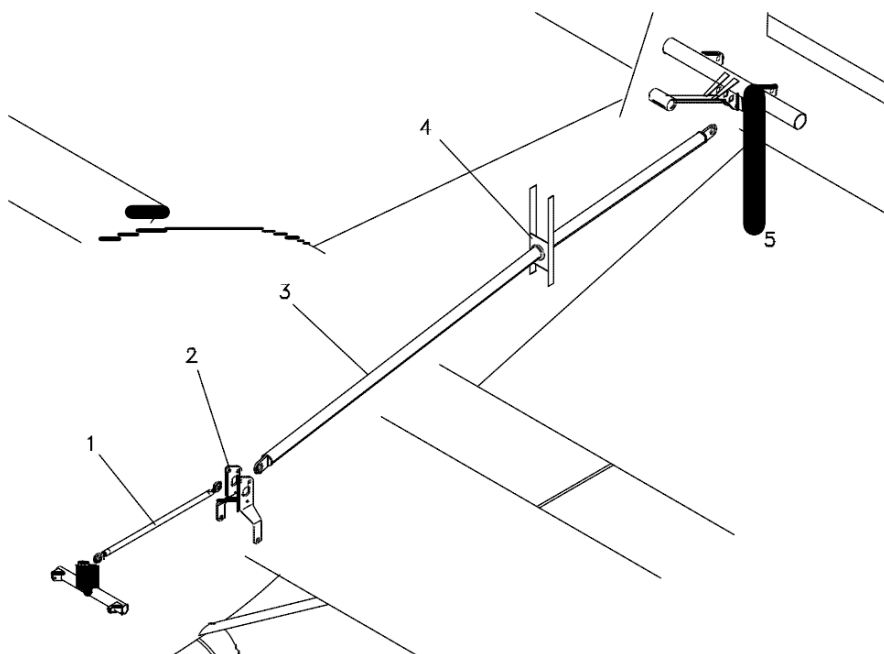

Figure 4-6 Stabilator control
The stabilator control system is push-pull type (see fig. 4-6) and is controlled from the cabin via the control sticks. Control is transmitted through a push-pull rod (1) linked to a bellcrank (2) and a shaft (3) that runs through the tail cone supported at midsection by a bracket (4) and connected with the stabilator torque tube through the aft bellcrank assembly (5).